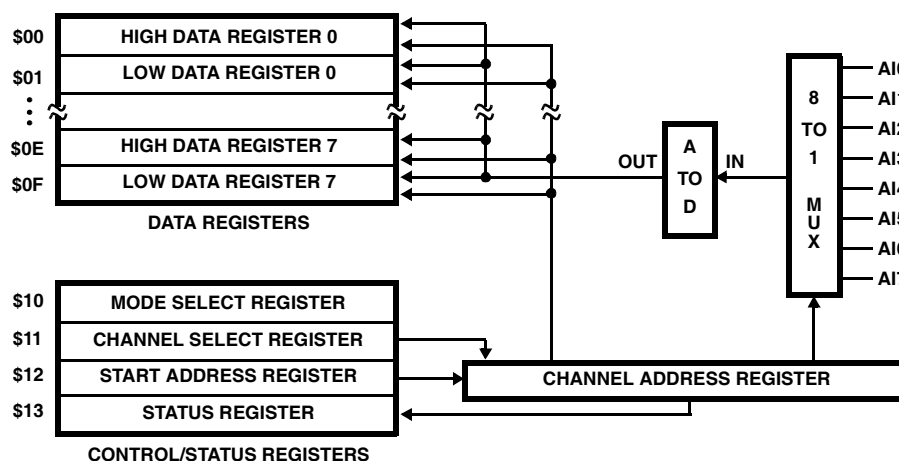

FIGURE 1. A PROGRAMMER'S MODEL OF THE CDP68HC68A2
From the programmer's perspective, the A2 is comprised of three control registers (Mode Select Register - MSR, Channel Select Register - CSR, and Starting Address Register - SAR), a status register (SR), an array of eight pairs of Data Registers, and one non-addressable, internal register (Channel Address Register). See Figure 1.
The format of the address/control byte is shown in Figure 4. The most significant bit is the  $\overline{R}/W$  bit. When  $\overline{R}/W$  is 0, read operations are to be performed. If  $\overline{R}/W$  is 1, write operations are to be performed. A0 through A4 specify the register to access. Data registers are mapped to address \$00 through \$0F. The Control and Status Registers are at locations \$10 through \$13 (See Figure 1).